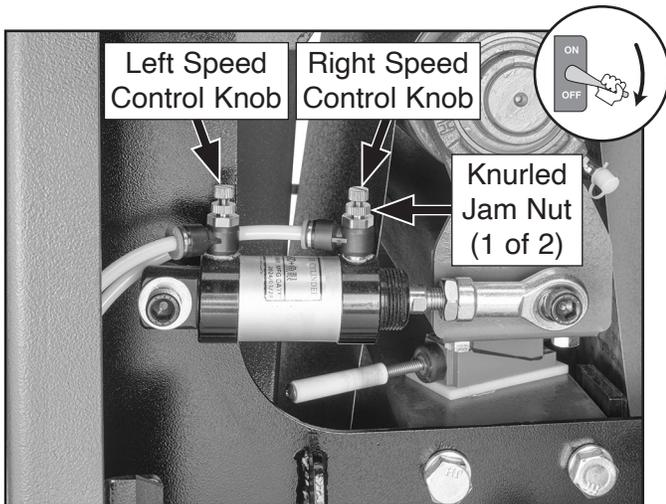

Figure 80. Oscillation speed controls.
3. Loosen knurled jam nut (see **Figure 80**) that corresponds to oscillation direction you wish to adjust.
4. Rotate speed control knob (see **Figure 80**) clockwise to decrease oscillation speed, or counterclockwise to increase oscillation speed, then tighten jam nut to secure.